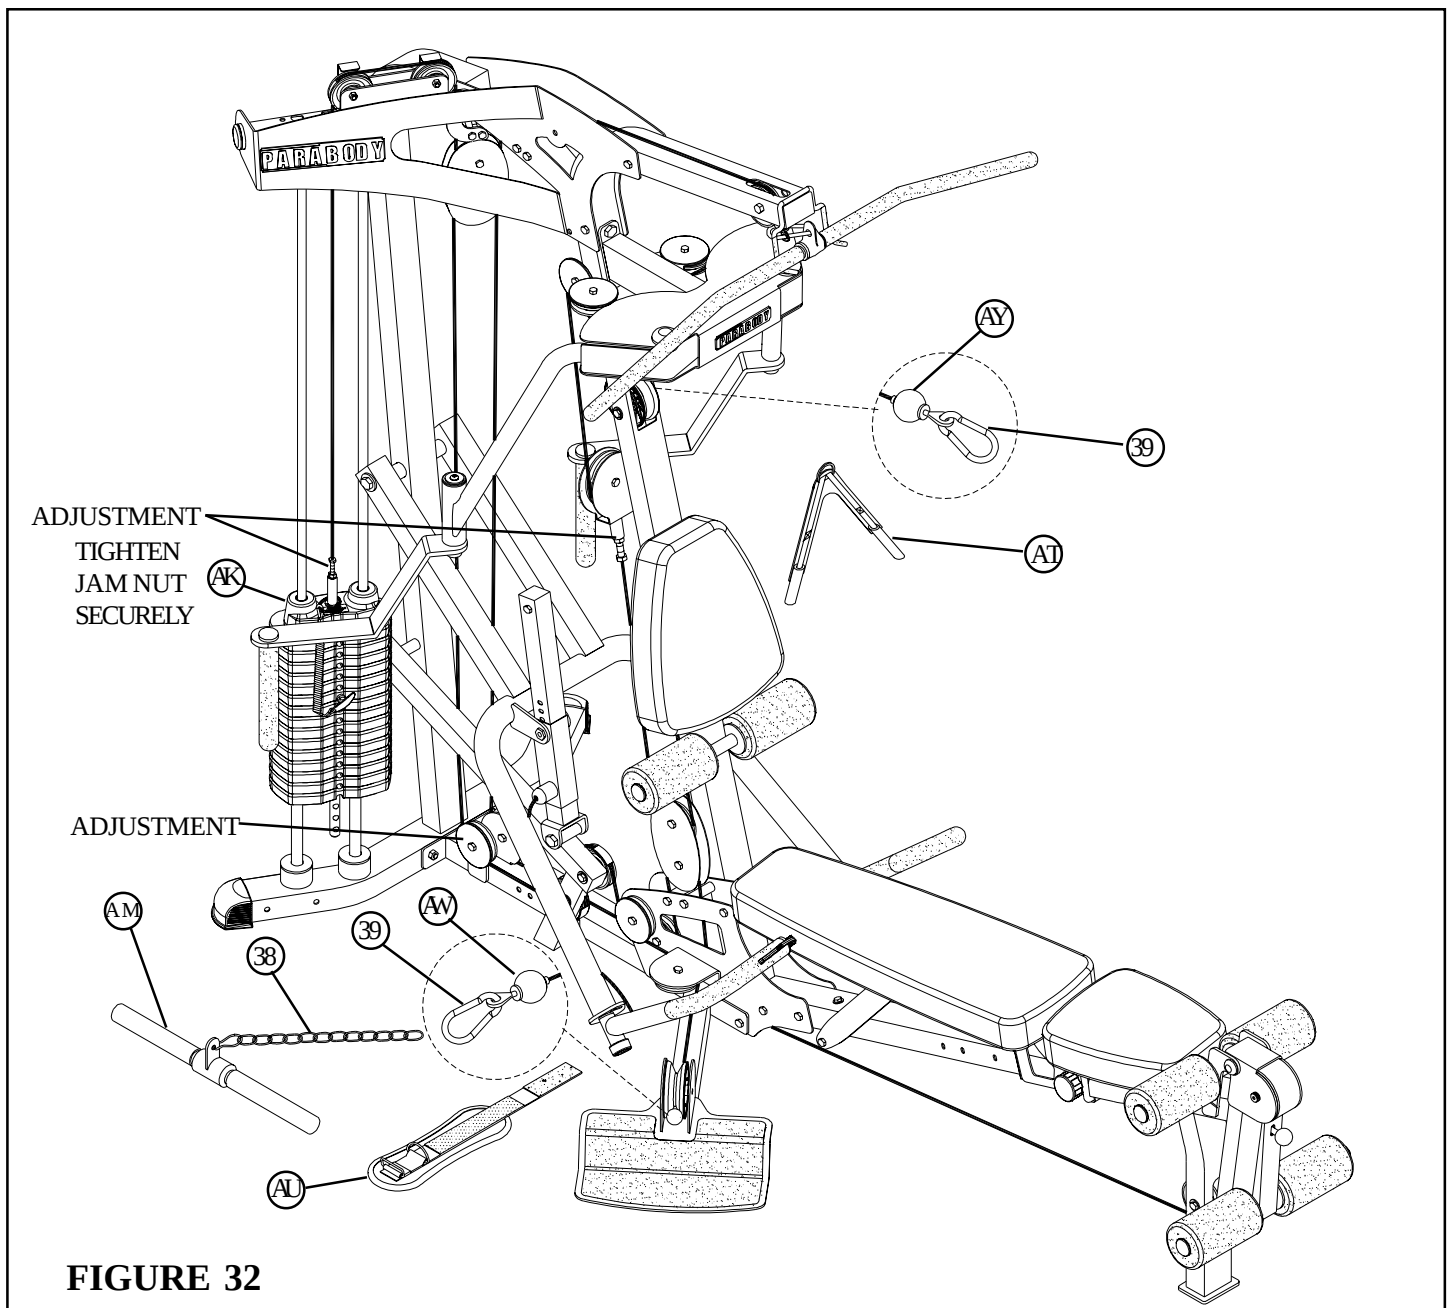

**FIGURE 31**
- Securely assemble the ball end of the AB CRUNCH CABLE (AY) and one 4-1/2" V-PULLEY (51) to the FRONT FRAME (E) using two 3/8 X 3-3/4" BOLTS (11), two 3/8 X 19/32" FLANGE SPACERS (42), two 3/8" WASHERS (23) and two 3/8" LOCKNUTS (28). See FIGURE 31(a) **(NOTE: The AB CRUNCH CABLE (44) should be routed underneath the retaining bolt as shown in FIGURE 31.)**
- Route the AB CRUNCH CABLE (AY) around one 3-1/2" PULLEY (49) and assemble the 3-1/2" PULLEY (49) to the PULLEY PLATES (L) using one 3/8 X 1-3/4" BOLT (17) and one 3/8" LOCK NUT (28). See FIGURE 31(b)
- Screw the threaded end of the AB CABLE (AY) into the end of the FLOATING PULLEY BRACKET (W) .See FIGURE 31.